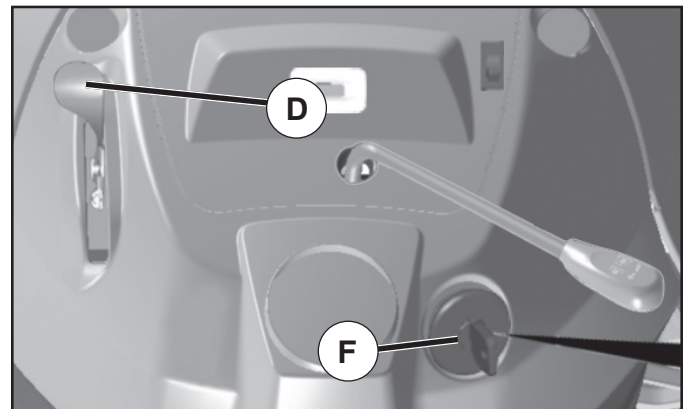

FIG. 6
- Turn ignition key (F) to "STOP" position and remove key. Always remove key when leaving tractor to prevent unauthorized use.
### TO USE THROTTLE CONTROL (D) (See Fig. 6)